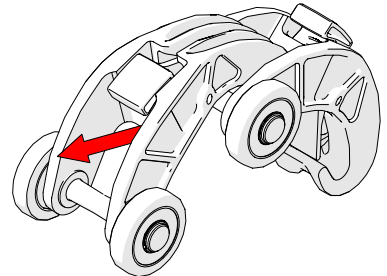

Fig. 71 - Pull the link backwards to secure catch
2. Pull the QuickLink until you hear a click that ensures the latch has been set (Fig. 71).